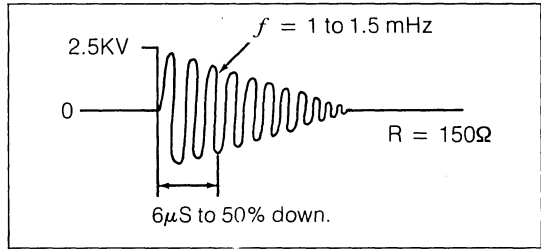

Figure 8 — More Complex Standard Waveform
2. The IEEE Standard (ANSI C 37.90a — 1974) for surge withstand capability. (See Figure 8).